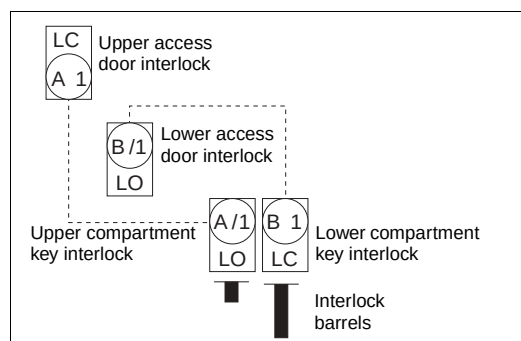

Figure 16: Interlock Status (Step 4.b.)
- b. If device is racked into a lower circuit breaker compartment, lock open (LO) the lower access door interlock (see Figure 16).